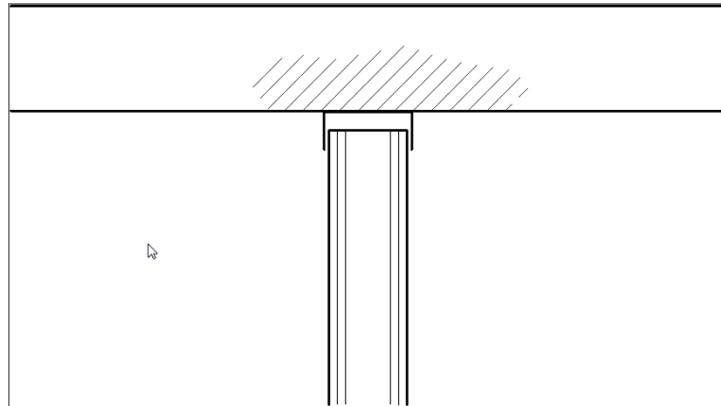

FIGURE 12.66: The detail with the hatching included
If you would like to venture out on your own, try to duplicate Figure 12.66. You'll need to add a filled region using diagonal lines. If you would rather follow the procedure, let's get started:
9. Click Finish Edit Mode on the Mode panel. Your pattern should look like Figure 12.66. (Remember, the loop must be completely closed, with no gaps or overlaps.)